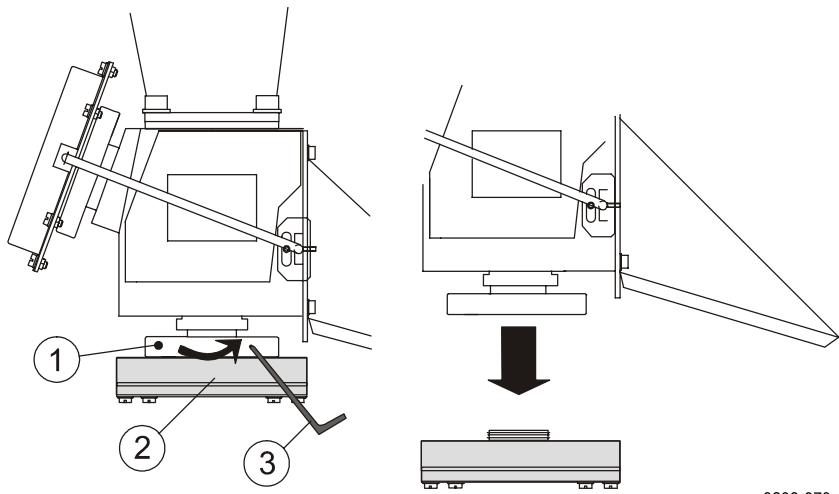

Figure 31 Removing the Laser Transmitter
2. Loosen the attachment ring (Figure 31 on page 125) using a 2.5 mm Hexagon Key as a lever; there are holes in the attachment ring for that purpose. If the Transmitter begins to move along, stop it by hand from rotating.
The following numbers refer to Figure 31 above:
1. Take the Transmitter CTT21 in your hand and set it in place. Notice the right position, the ribbon cable comes out from the back side. Rotate the attachment ring (Figure 31 above) by hand and tighten it using a 2.5 mm hexagon key as a lever. If the transmitter begins to move along, carefully stop it by hand from rotating.